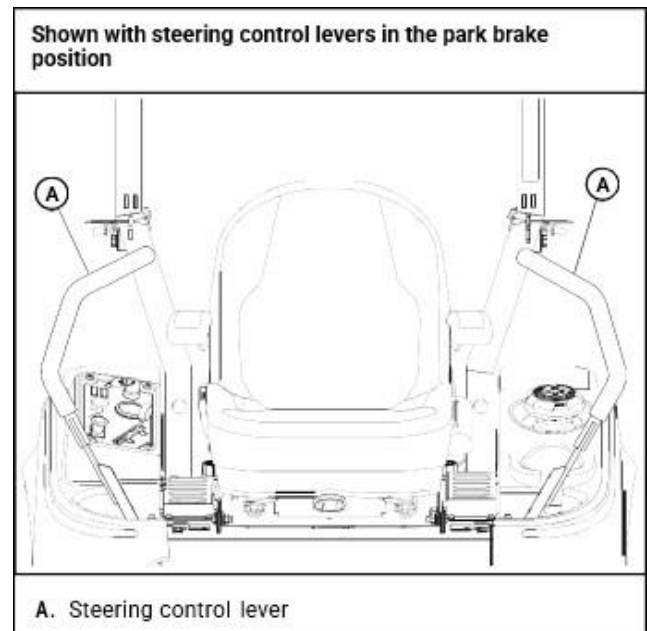
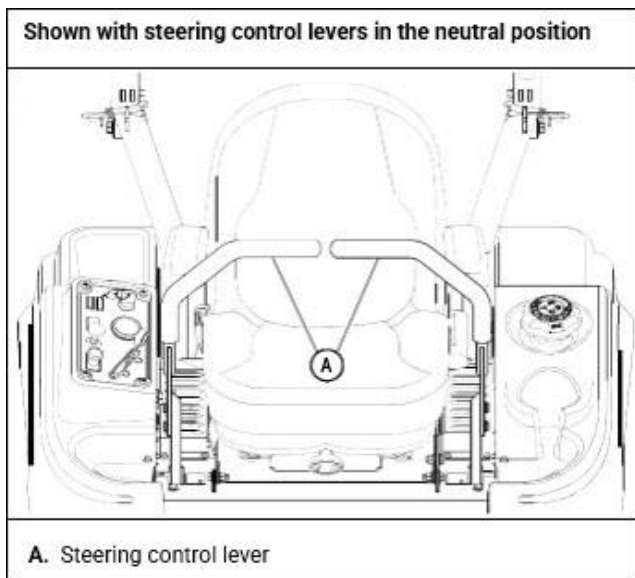

Figure 2
Figure 3
- A. Steering control levers [Figure 2 & Figure 3] - these levers control the mower's speed, direction, stopping, and park brake.